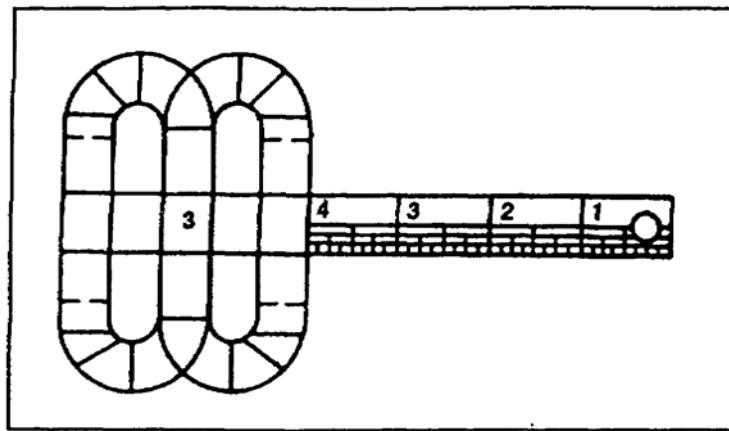

Figure 3-48. Stencil key set
e. Stencil Key Set. The stencil key set is used as a guide for laying out and drawing letters or numbers on stencil boards. A 3-inch stencil key set is shown in Figure 3-48, page 3-44. To use the stencil key set, first mark off a horizontal line on the stencil board. Then use the key set to outline the desired numbers or letters, using either the inside or outside of the set. After all the letters or numbers have been outlined on the stencil board, simply cut them out with a sharp knife or a one-sided razor blade.